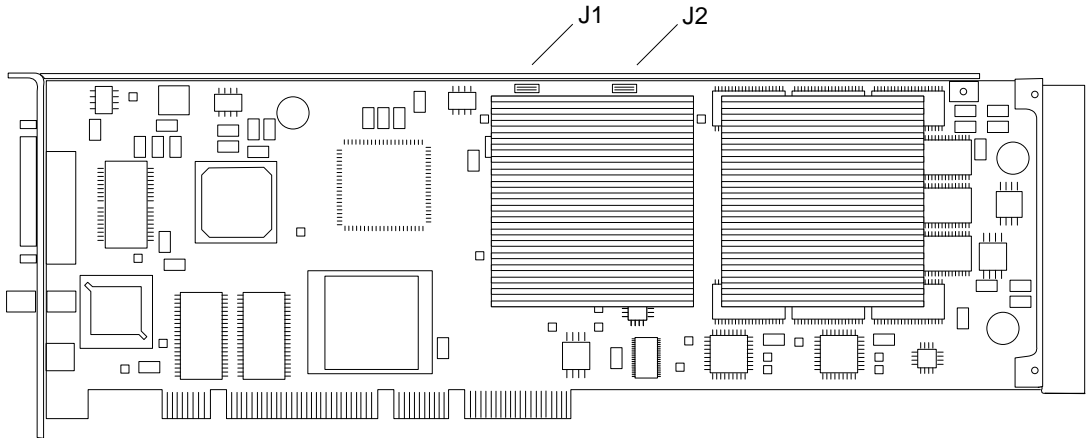

FIGURE A-3 Sun Expert3D Multiview-In and Multiview-Out Connectors
3. **Connect the frame lock multiview cable to each Sun Expert3D graphics card (FIGURE A-3).**